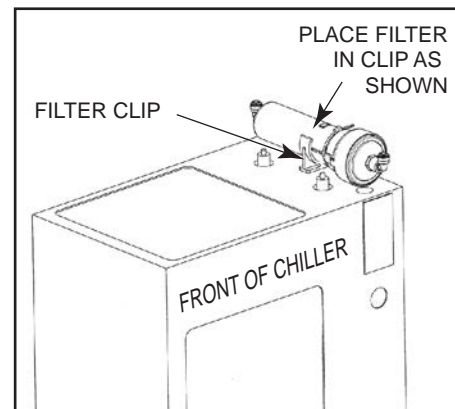

FIG 5
- (A) SCREW FILTER CLIP TO UNIT IN LOCATION AS SHOWN IN FIG. 5 (SCREW PROVIDED)
- (B) INSTALL 1/4" STEM ELBOWS (PROVIDED) IN FILTER INLET AND OUTLET